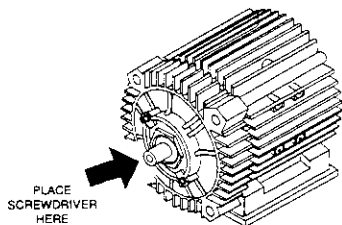

Figure 6 - Position Screwdriver
- b. Place a phillips head screwdriver in the hole at the end of the motor shaft. (See Figure 6).